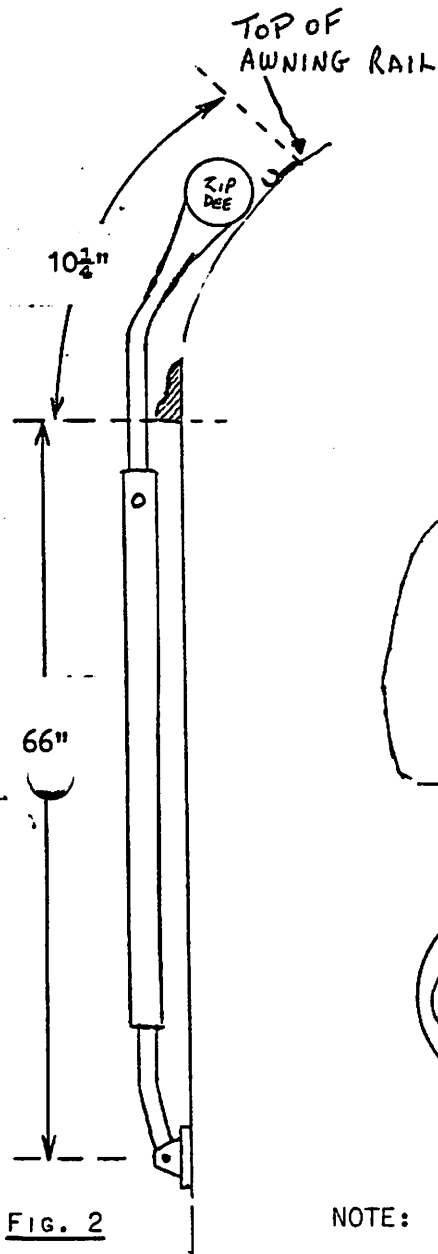

FIG. 2
STEP 2. STRIKE LEVEL CHAULK LINE AND MOUNT AWNING RAIL AS SHOWN IN FIG. 2, USING THREAD CUTTING SCREWS PROVIDED. SEAL EACH HOLE AND TOP OF RAIL WITH SILICONE RUBBER CEMENT TO PREVENT LEAKS.
STEP. 3 DETERMINE HINGE HEIGHT AS SHOWN IN FIG. 2 & 3. MOUNT HINGES ON RIBS (OR PLUMB LINE).